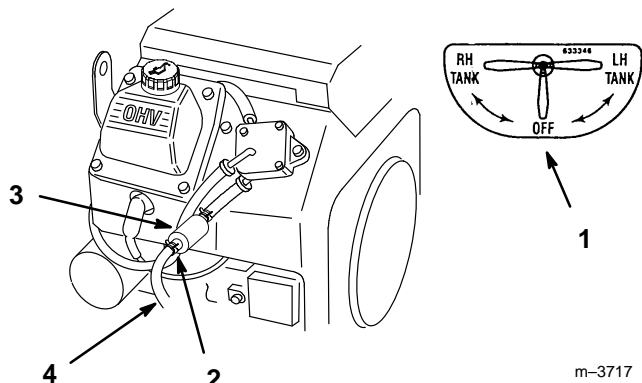

Figure 36
5. Install a new filter and move the hose clamps close to the filter (Fig. 36).
2. Close fuel shut-off valve (Fig. 36).
3. Loosen the hose clamp at the fuel filter and slide it up the fuel line away from the fuel filter (Fig. 36).
4. Pull the fuel line off fuel filter (Fig. 36). Open fuel shut-off valve and allow gasoline to drain into a gas can or drain pan.
5. Install the fuel line onto the fuel filter. Slide the hose clamp close to the fuel filter to secure the fuel line (Fig. 36).